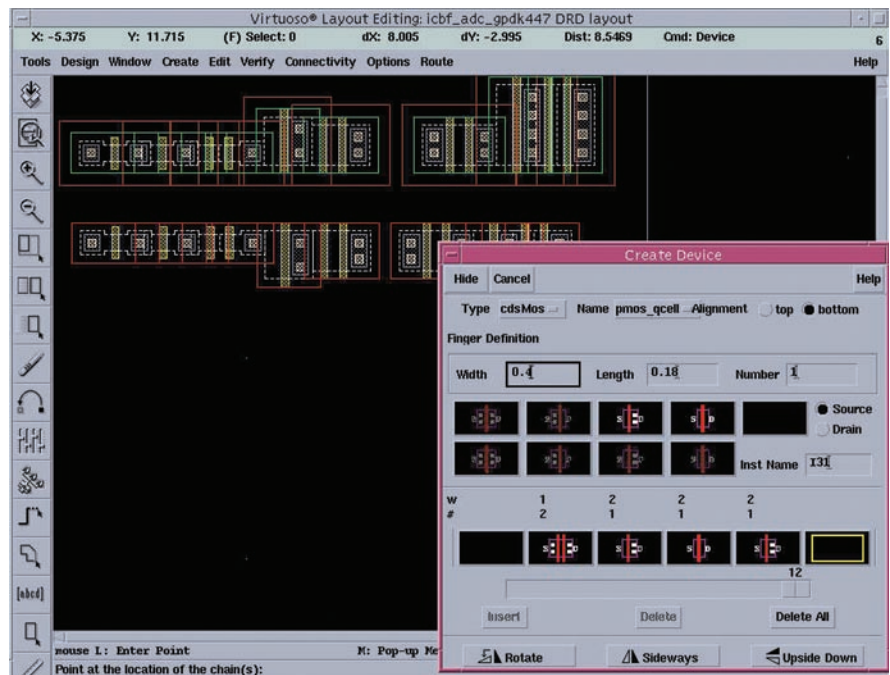

Figure 2: QCell feature accelerates device creation, editing, and placement
- Simplifies and optimizes device generation using a new menu-driven QCell feature (see Figure 2) or with the standard SKILL programmable Pcells